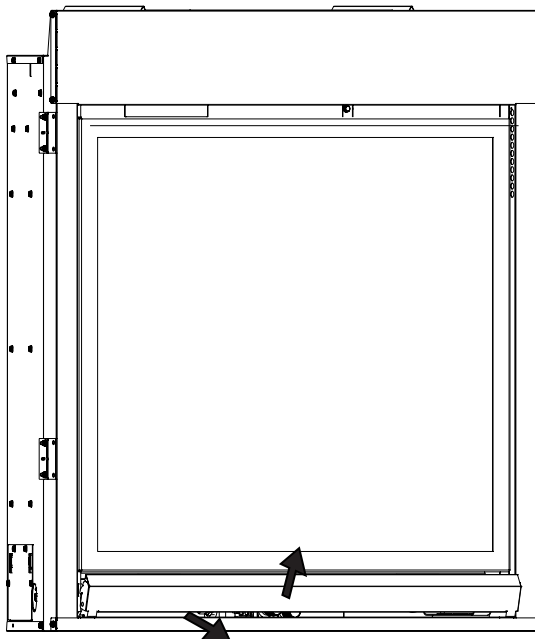

Figure 5
- 1b. **(Pre 2016)** Make sure power and gas are turned off. Tilt and pull lower panel to remove from bottom assembly. **See Figure 5.**